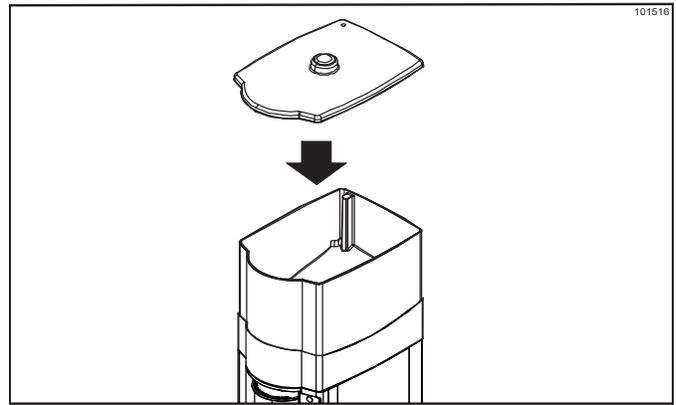

Figure 6-10
- Reinstall the ice hopper cover. (See Figure 6-10.)